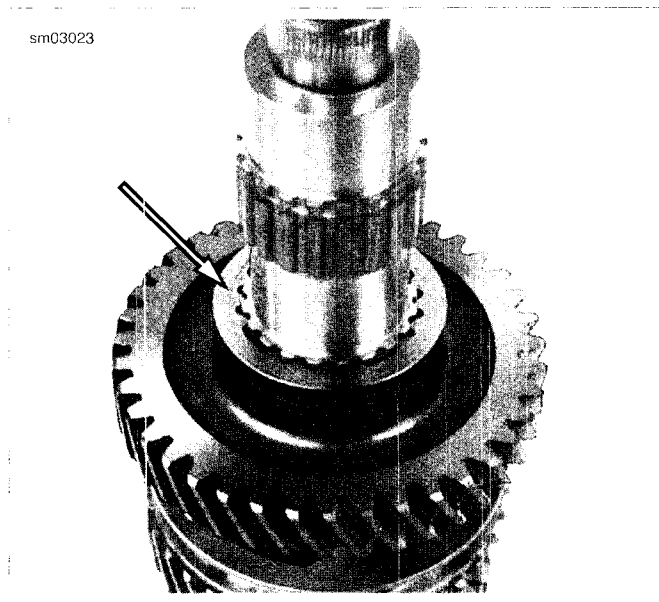

Figure 6-20. Third Gear Lock Ring
See Figure 6-20. Note the direction that the 3rd gear locking ring is installed.
3. See Figure 6-20. Place countershaft 3rd gear lock ring over securing segments.